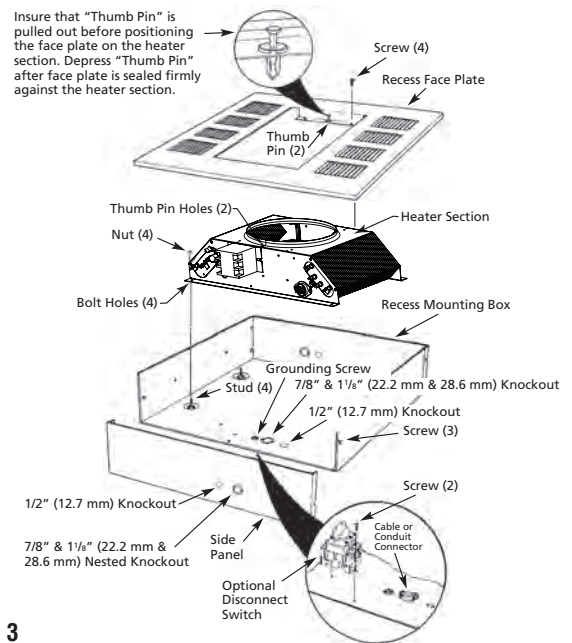

Figure 3
1. Remove the recess mounting box (Figure 3) from the carton containing the Recess Mounting Enclosure, Type REA.
2. Remove three screws and the side of the recess mounting box to allow for easier wiring (Figure 3).
3. Remove one of the knockouts and install a cable or conduit connector (Figure 3).
4. Install the optional disconnect switch (if required as shown in Figure 3).
8. Position the heater section over the studs in the recess mounting box (Figure 3).
- Push the heater section on to the studs and securely tighten four nuts (supplied) on the studs to secure the heater section to the recess mounting box (Figure 3).
- Remove the Recess Face Plate (Figure 3) from the carton containing the Recess Mounting Enclosure, Type REA.
NOTE: Insure that the “thumb pin” in each end of the discharge grille opening is pulled outward to allow the body of the thumb pins to fit into the holes in the heater section. (Figure 3.)
- Install and securely tighten four screws (supplied) to secure the recess face plate to the heater section (Figure 3).